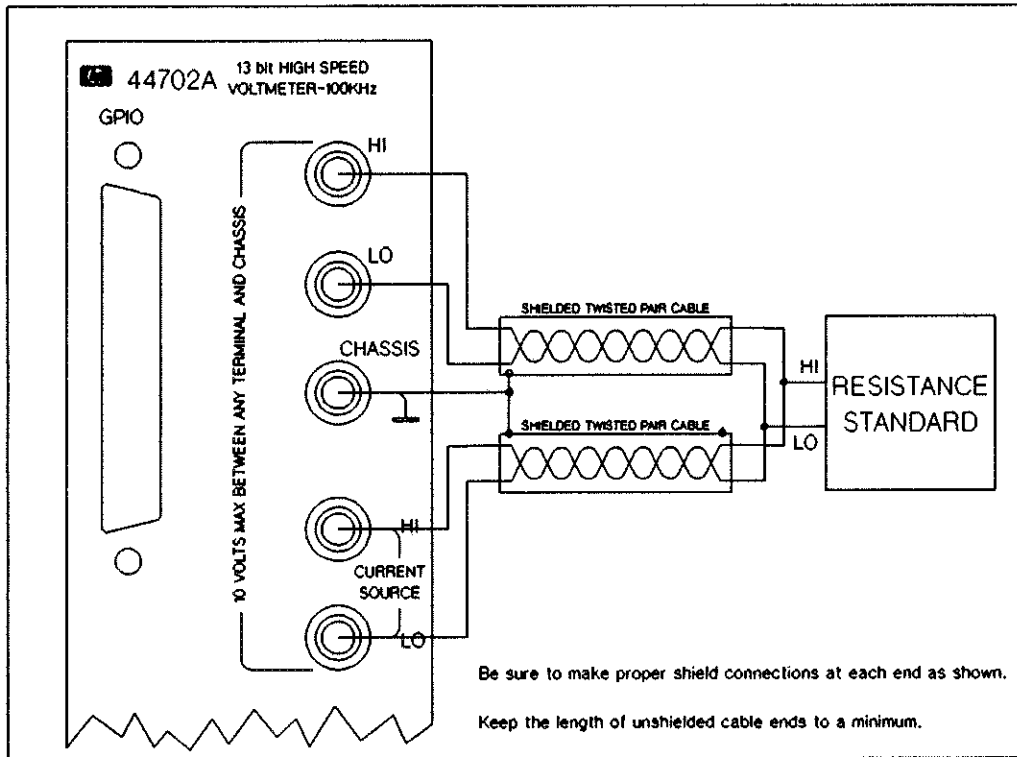

Figure 7-6a Ohms Gain Test Connections Using a Resistance Standard
2. If using the Resistance Standard, set its output to either 10 Kohm or 3 Kohm. If using a Standard Resistor, select either a 10 Kohm or 3 Kohm value. Connect the Resistance Standard or Standard Resistor to the rear HI and LO Input Terminals of the HP 44702A/B High Speed Voltmeter. The connections are shown in Figure 7-6a and 7-6b.